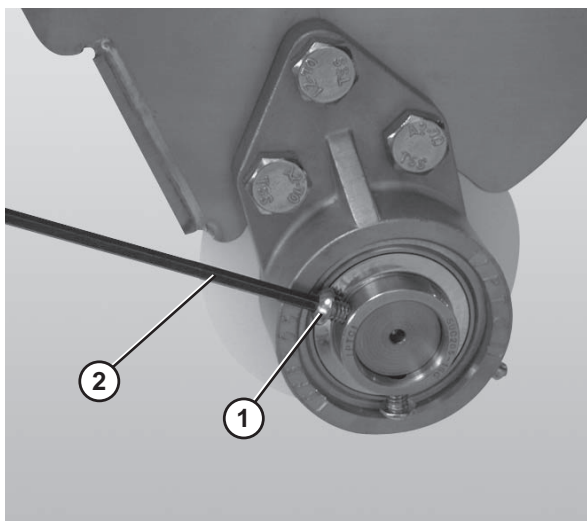

Figure 59
6. Loosen the 3 hole flange (**Figure 59, item 1**) with bearing fasteners using a hex wrench (**Figure 59, item 2**).